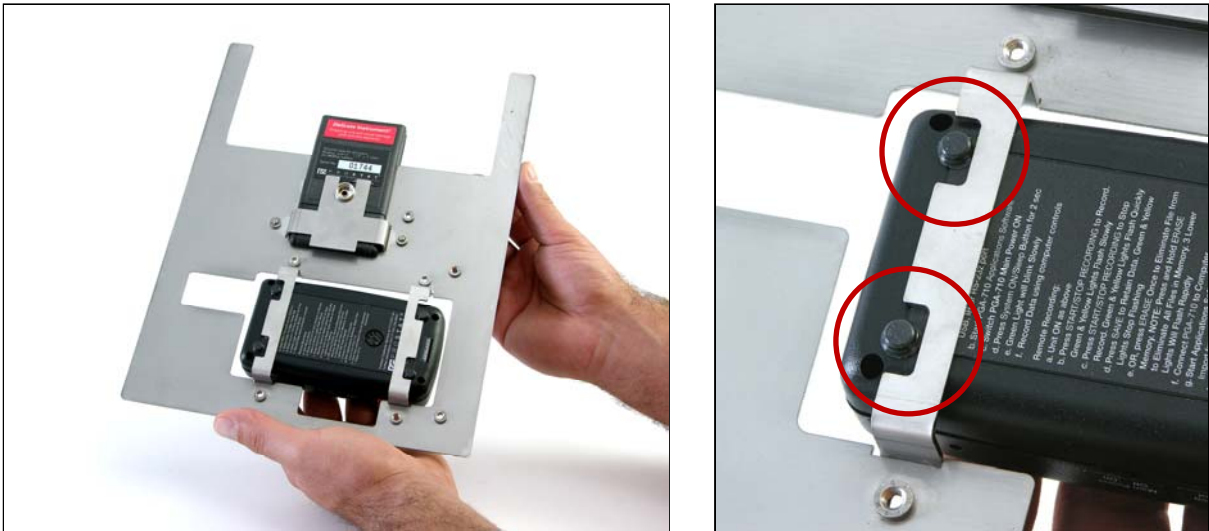

Figure 7 & 8: Mount PGA-710 in support Straps and locate rubber feet in Strap notches
9. Orient the Strap notches toward the outer edges of the Carrier Plate. The notches will accommodate the PGA-710 rubber feet located on the bottom of the instrument. Figures 7 & 8.